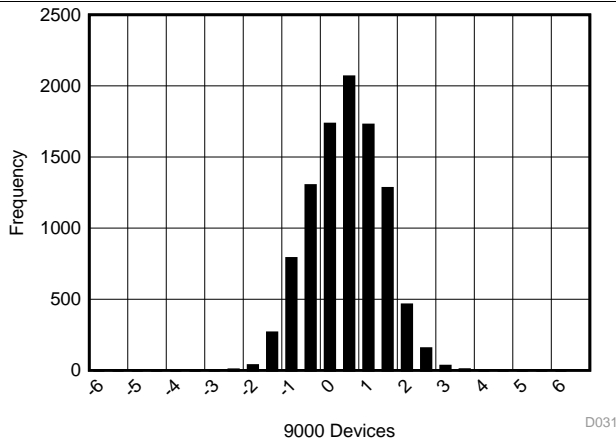
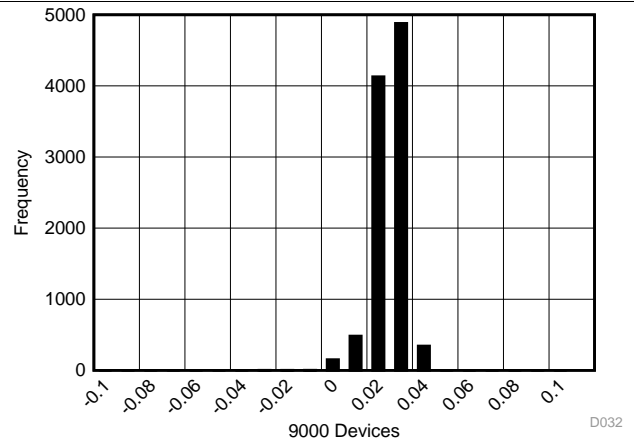
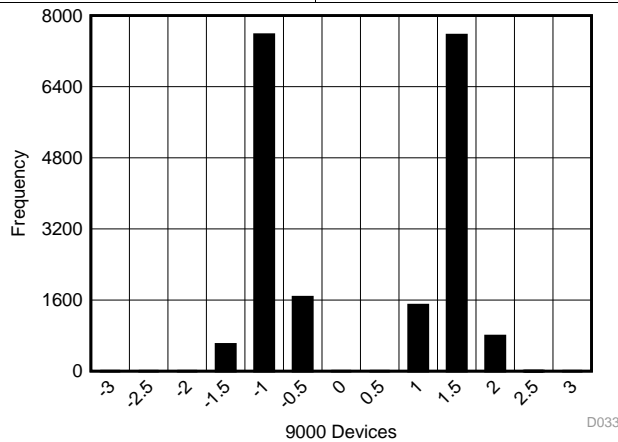

Figure 29. Typical Offset Error Distribution
Figure 30. Typical Gain Error Distribution
Figure 31. Typical INL Distribution
(1) Ideal input span; does not include gain or offset error.
(2) See Figure 31, Figure 29, and Figure 30 for statistical distribution data for INL, offset error, and gain error.
(3) LSB means least significant bit.
(4) See the OFFCAL State section for details.
(5) All specifications expressed in decibels (dB) refer to the full-scale input (FSR) and are tested with an input signal 0.5 dB below full-scale, unless otherwise noted.
(6) Calculated on the first nine harmonics of the input frequency.